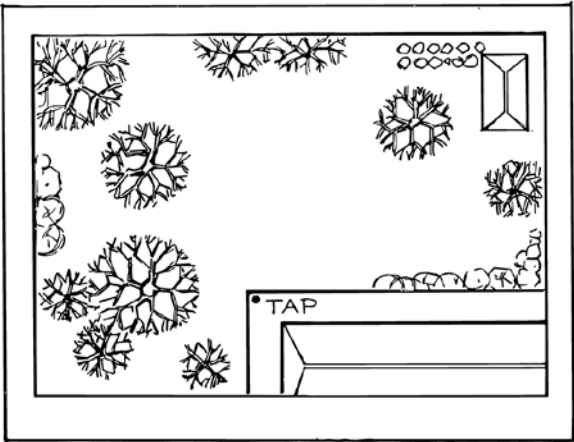

Fig 2 Sketch plan of garden
- Take a sheet of graph paper and draw a sketch plan of your garden marking in any buildings and fences, shrubs, trees, garden beds, paths and any obstacles that do not need watering. Don't forget to mark the location of your tap (Fig 2).